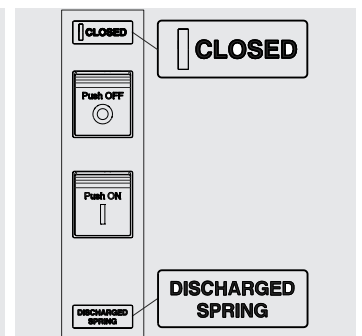

Figure 34
3. Circuit-breaker closed with springs discharged (see Figure 34).